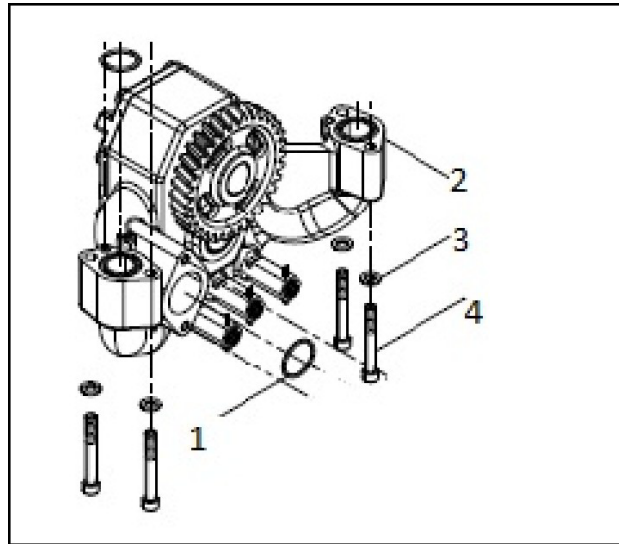

Figure 151.
1. Put a new O-seal ring (Figure 151, item 1) on the oil pump (Figure 151, item 2).